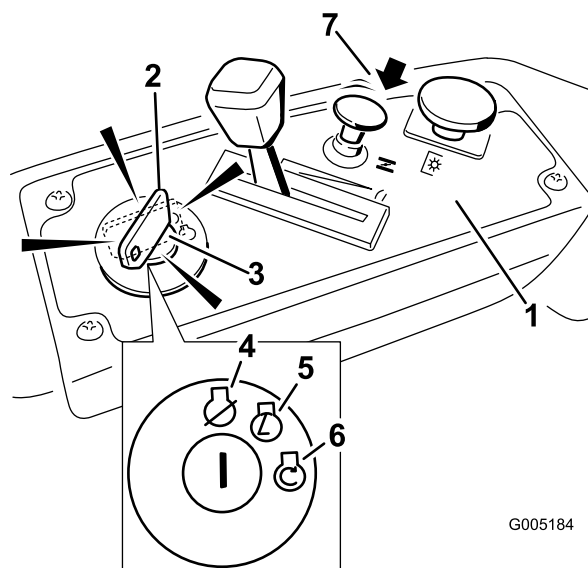

Figure 12
4. Turn the ignition key to Start to energize the starter. When the engine starts, release the key (Figure 12).
5. After the engine starts, push down on the Choke control (Figure 12). If the engine stalls or hesitates, pull up on the Choke control and let the engine run for a few seconds. Then push down on the Choke control. Repeat this as required.
2. Move the throttle lever to between Fast and half throttle (Figure 12).